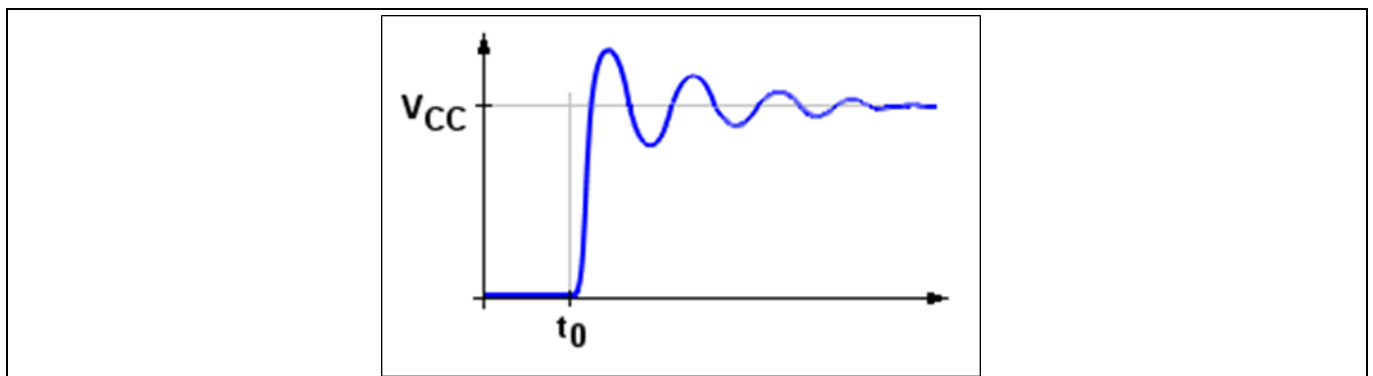

Figure 8 Signal rise after closing the switch at point (B)
However, at the port pin Pxy on point (B), as shown in Figure 8, the voltage can be measured.